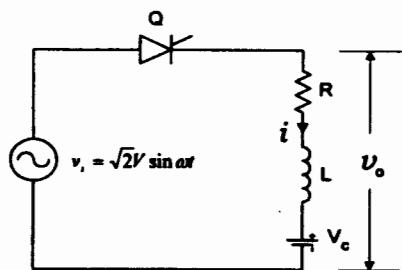

Figure 1: A Half-wave rectifier.
1. A half-wave controlled rectifier is shown in Figure 1. The thyristor, Q is fired at $\alpha = 45^\circ$ during each cycle. The rms value of the source voltage is 120 V. Consider $V_C = 24$ V, $L = 12$ mH and $R = 6 \Omega$.